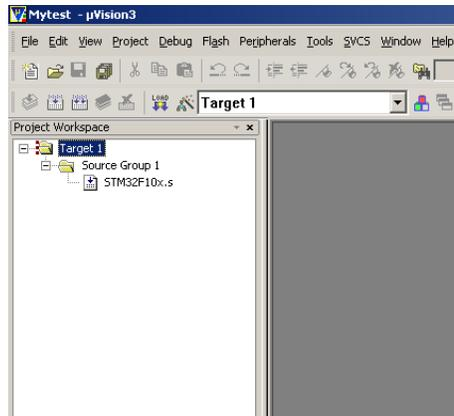

Figure 10 Project Workspace
12. In the μ Vision Project Workspace area shown below in Figure 10, open up the folders as shown below on the left by clicking on the “+” beside each folder.